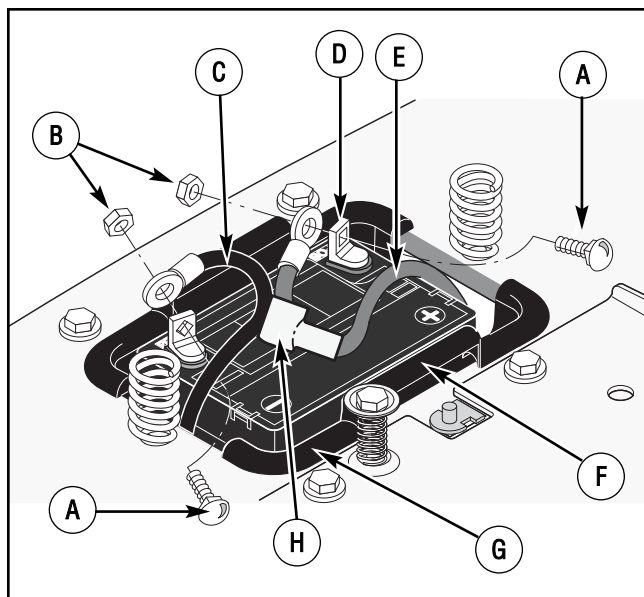

Figure 27: Battery
1. Disconnect the **black cable** from the negative (-) terminal (Figure 27).
5. Fasten the **black cable** to the negative (-) terminal with the fasteners as shown (Figure 27).